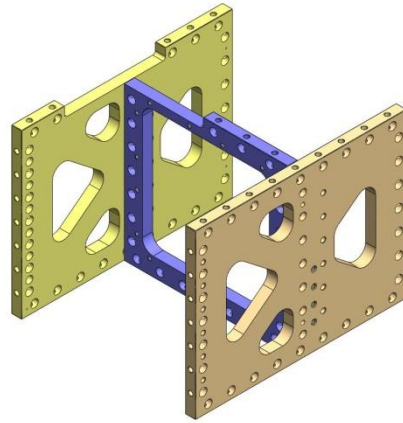

Figure 3.19. Step 1 of Boxwork Assembly. Radial Ribs are placed against Mid-Tangential Ribs.
- With plates standing vertically, butt the **Radial Ribs** (D071069 and D071068) against either side of the **Mid-Tangential Rib** (D071071), as shown in Figure 3.19. Make sure pins seat properly into mating holes and slot.